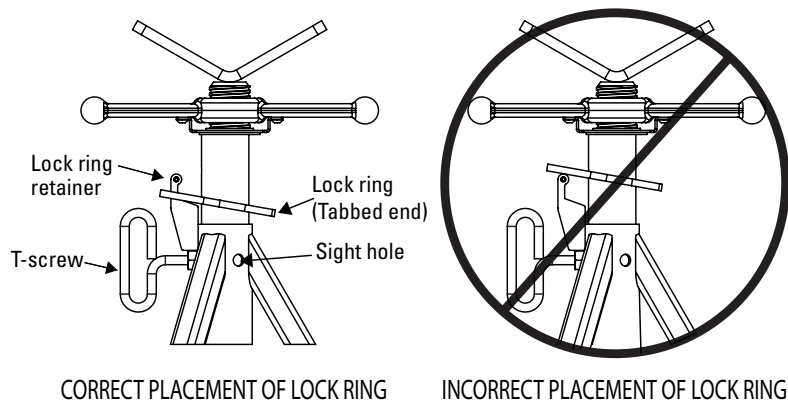

Figure 5
3. With no load on the Pipe Stand, loosen the T-screw. Grasp the quick height adjustment tube and lift to desired height. NOTE: DO NOT raise the quick height adjustment tube past the sight hole. If you are not able to see the quick height adjustment tube in the sight hole, lower the quick height adjustment tube until it completely fills the sight hole. Release the quick height adjustment tube and ensure that the lock ring has engaged. This will help prevent the quick height adjustment tube from lowering further. **NOTE: ALWAYS** make sure the lock ring is properly placed on the lock ring retainer and the roll pin is in place. See Figure 5.